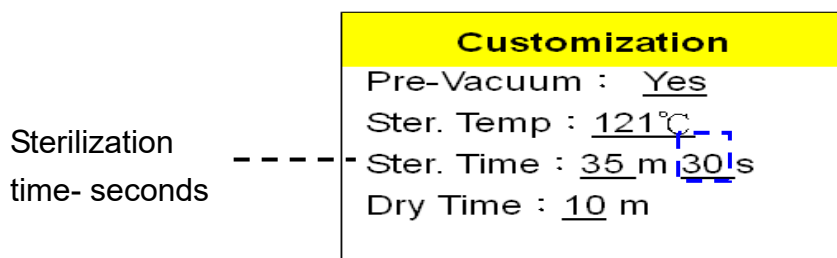

Figure 66
- Press  button to store sterilization time parameter as shown in Figure 66.